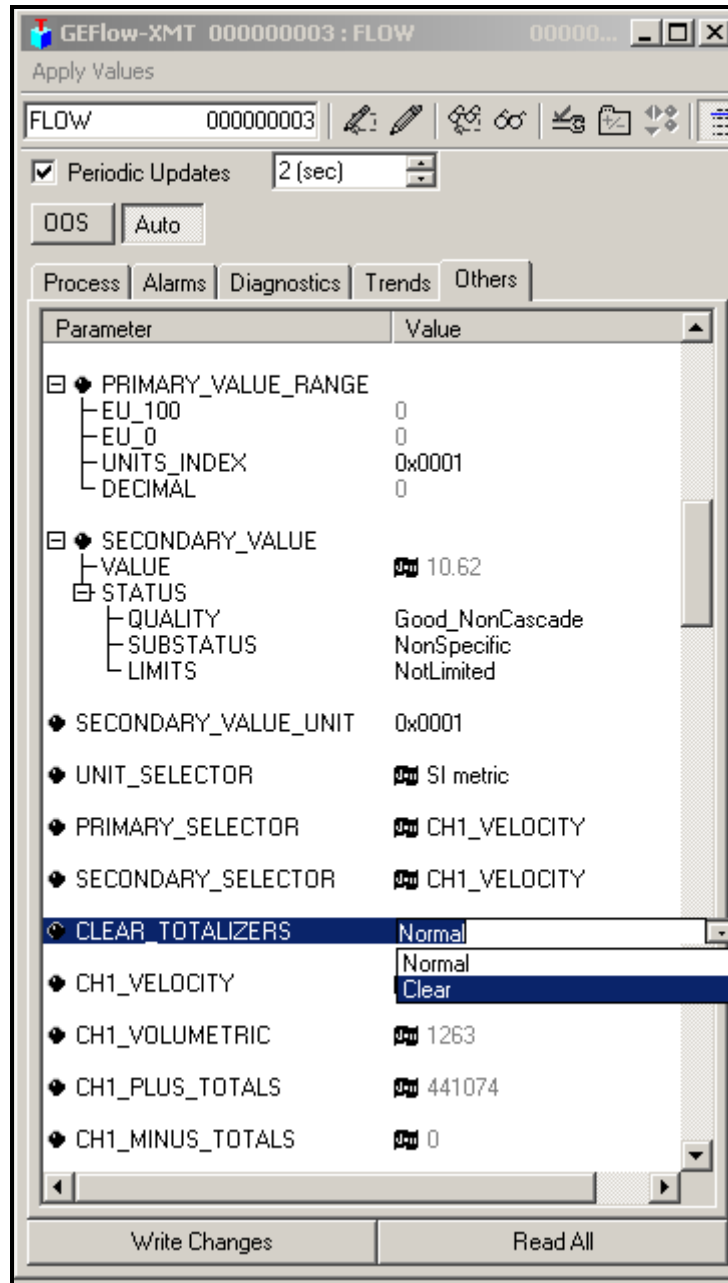

Figure 42: Clear Totalizers Drop Down List
3. Select **Clear** from the drop down list box (see Figure 42).